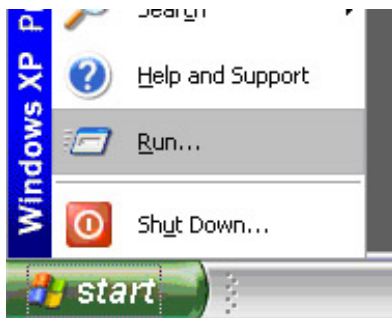

Figure 4
- 1) Using the Windows "Start" button, select "Run" (Figure 4).